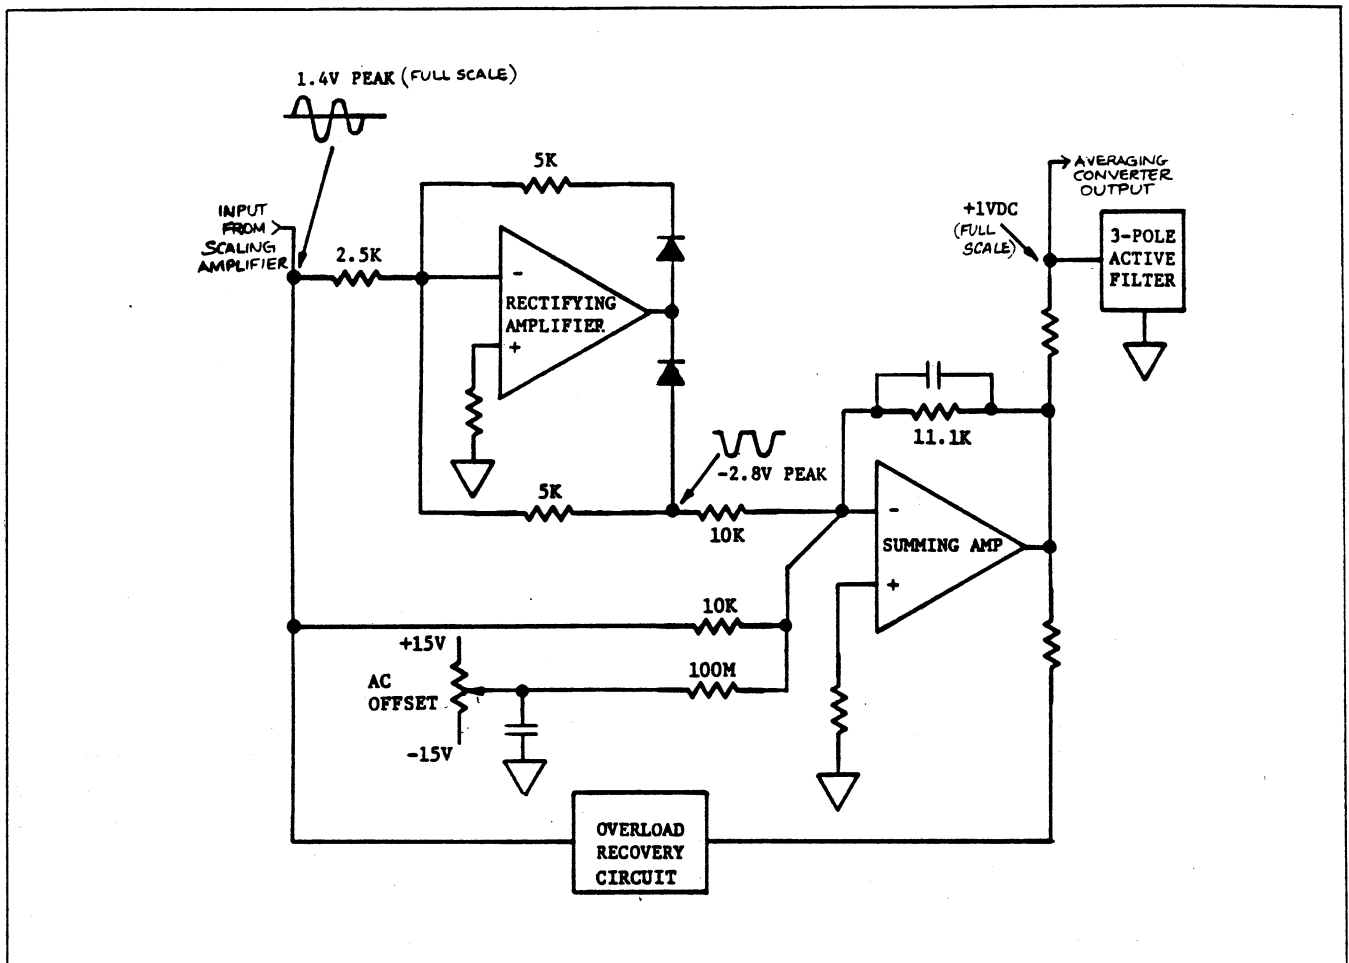

Figure 5.22 - Averaging Converter
5.3.5.9.4 *Averaging Converter.* The Averaging Converter (Figure 5.22) receives the scaled AC signal from the Scaling Amplifier and applies it to the active rectifier stage. The active rectifier circuitry (Q1 through Q6, Q9 through Q11, AR3, CR2 and CR3) is configured as an operational amplifier with two polarity selective feedback paths. One feedback path (through CR3) conducts only with a negative amplifier output and the other path (through CR2) conducts only with a positive amplifier output. The voltage developed across the negative conducting leg is applied to the input of the summing amplifier circuitry.